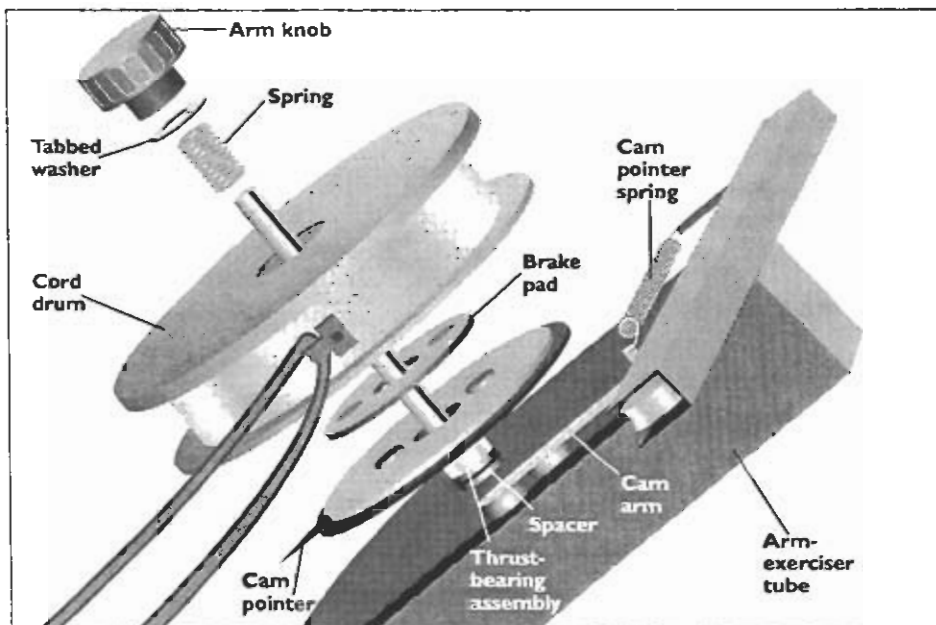

Figure 24
1. Remove the arm knob, tabbed washer and spring from the axle (Figure 24).
1. Place the spacer and thrust-bearing assembly onto the axle (Figure 24). The side with visible ball bearings, if applicable, should face down.